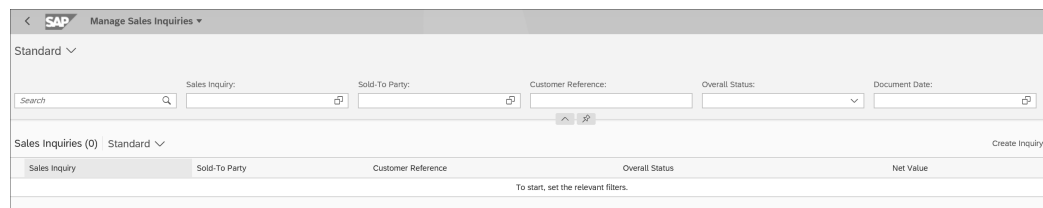

Figure 4.23 Manage Sales Inquiries App
1. Launch the Manage Sales Inquiries app in SAP Fiori, and click on the **Create Inquiry** link, as shown in Figure 4.23.